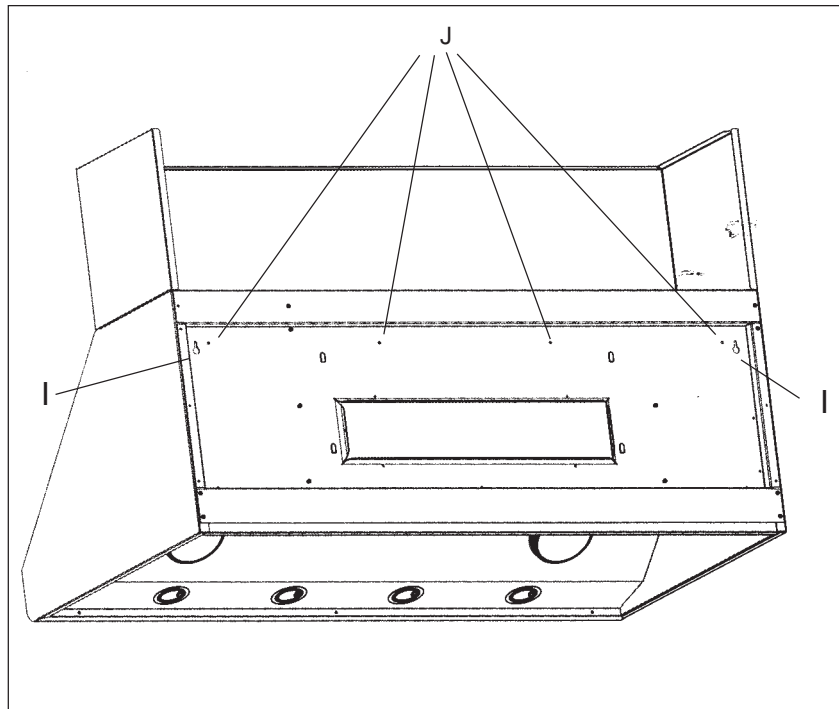

Figure 8
- Rest the hood on the screws in the wood bracket. Use the keyholes labeled "I" in Figure 8. Make sure the wood bracket fits into the recess on the back of the hood.
- From inside the hood drive screws (#8 x 5/8") through holes in hood into wooden bracket. See holes labeled J in Figure 8.